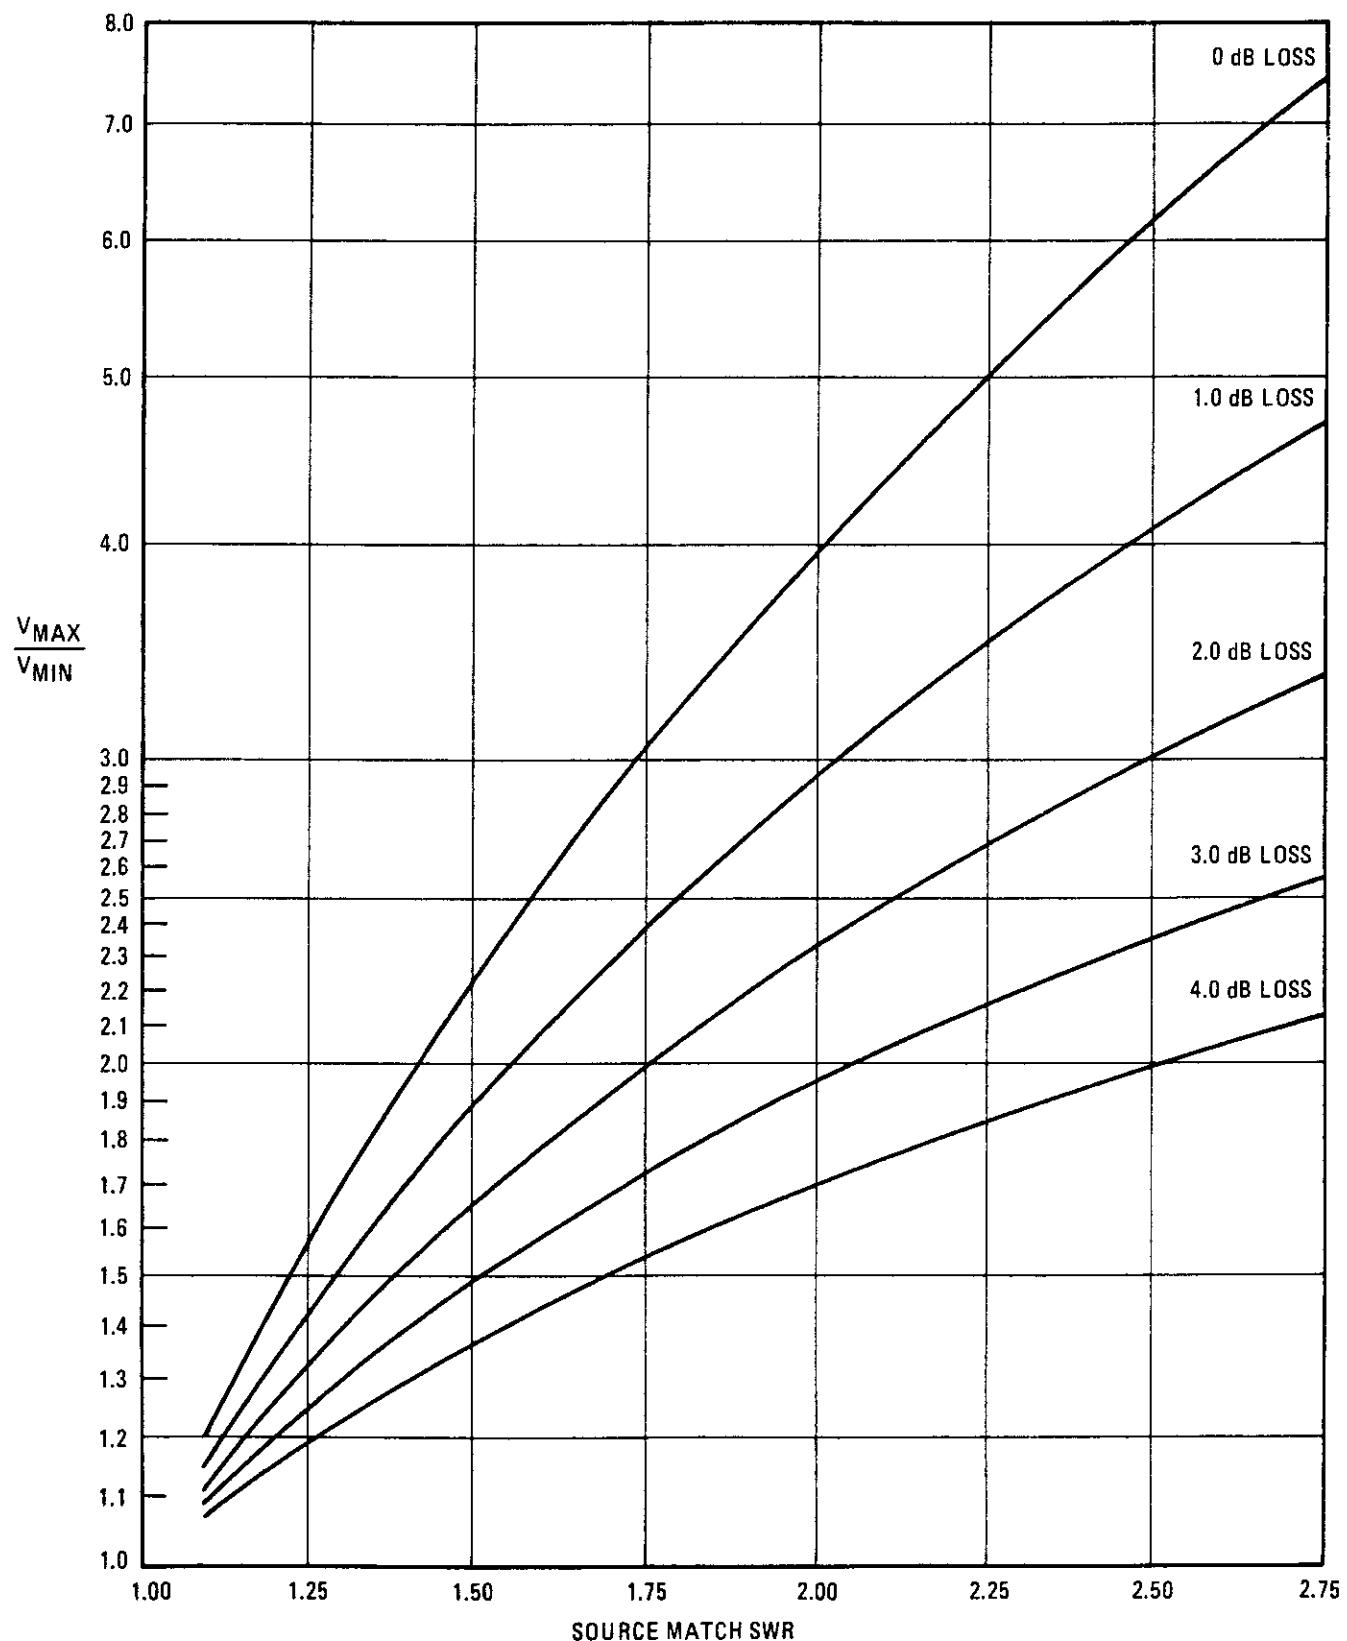

Figure 4-12. Conversion of Oscilloscope Trace to Source Match SWR
5. Convert the greatest V MAX/V MIN ratio noted in step 4 into source match SWR using the 1.0 dB loss line in Figure 4-12. The SWR should be less than 2.0 for a standard instrument or less than 1.5 for an Option 001. Enter the calculated SWR in the test record.